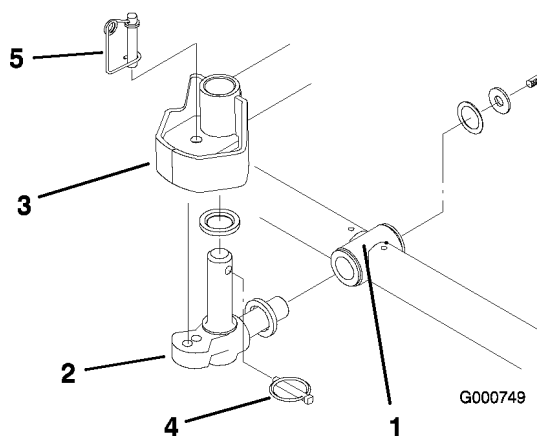

Figure 5
6. Insert a thrust washer onto horizontal shaft of pivot knuckle as shown in Figure 5.
7. Insert the horizontal shaft of the pivot knuckle into the mounting tube of the carrier frame (Figure 5).
8. Secure pivot knuckle to carrier frame with a thrust washer, flat washer and a flange head capscrew (Figure 5).
9. Insert a thrust washer onto vertical shaft of pivot knuckle (Figure 5).
10. If removed, insert the vertical shaft of the pivot knuckle into lift arm pivot hub (Figure 5). Guide the pivot knuckle in place between the two rubber centering bumpers in the under side of the lift arm steering plate.
11. Insert the lynch pin into the cross hole on the pivot knuckle shaft (Figure 5).
Note: If fixed cutting unit position is required, insert steering locking pin into pivot knuckle mounting hole (Figure 5).
14. Hook spring wire around bottom of steering locking pin (Figure 5).